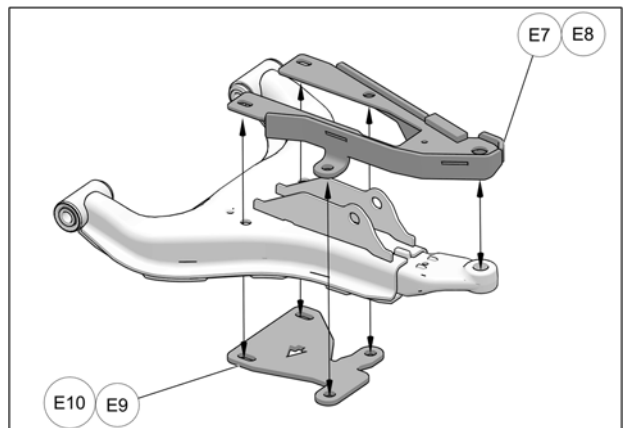

Fig. 17
6. Install Stiffener bracket (E7-E8) over upper a-arm with bottom plate (E9-E10) as shown in Fig. 17